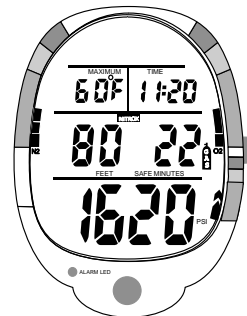

Fig. 60 - No Deco Alternate #1
**NO DECO ALTERNATE DISPLAY #1 (Fig. 60)**